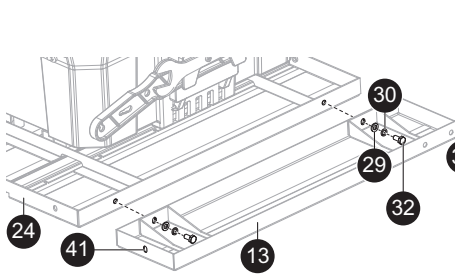

Fig. 1b
- > Attached the left/right extension tables [13,2] to the working table [24] with flat washers 6 [29], spring washers 6 [30] and hex bolts M6 x 16 [32]. (Fig. 1b-1c)